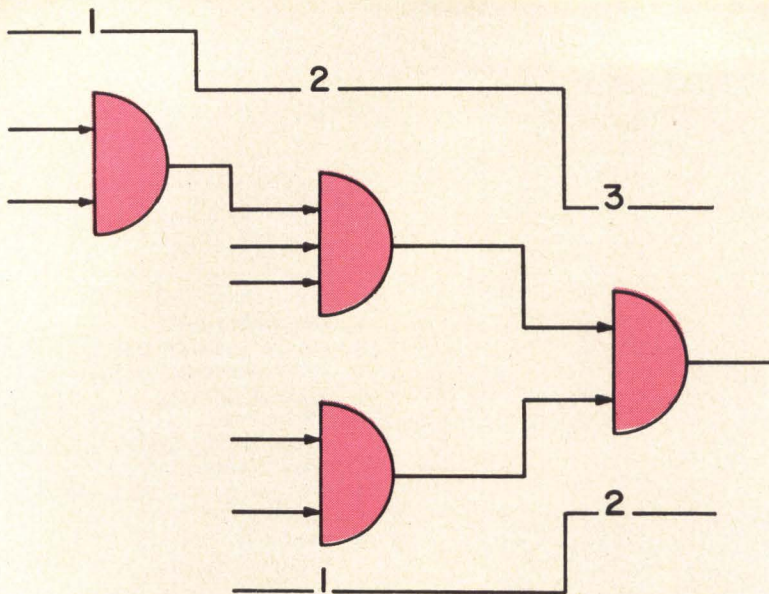

Fig. 1. A three-level logic system.
- A unit level of logic is defined as the logical ANDing or ORing of K variables. For example, the circuit shown in Fig. 1 contains two different logical paths. The lower path has 2 levels of logic, and the upper path, which is larger and therefore the determining factor, contains 3 levels of logic.
circuit of Fig. 1 contains 9 inputs.